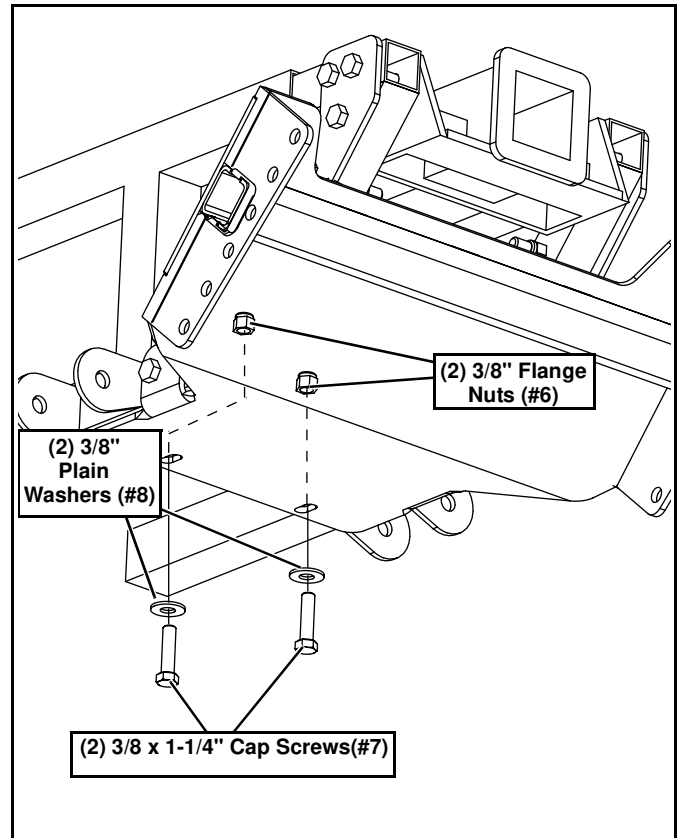

Figure 9
9. Secure the bottom of item #2 by reinstalling the hardware that was removed from step 3, but place (1) 3/8" Plain Washer (#8) over each Cap Screw before installing. (See Figure 9.)